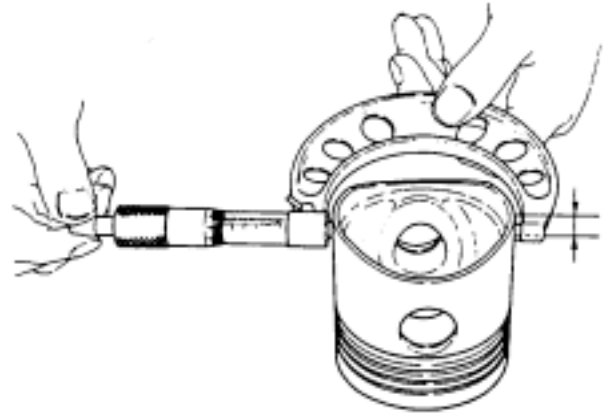
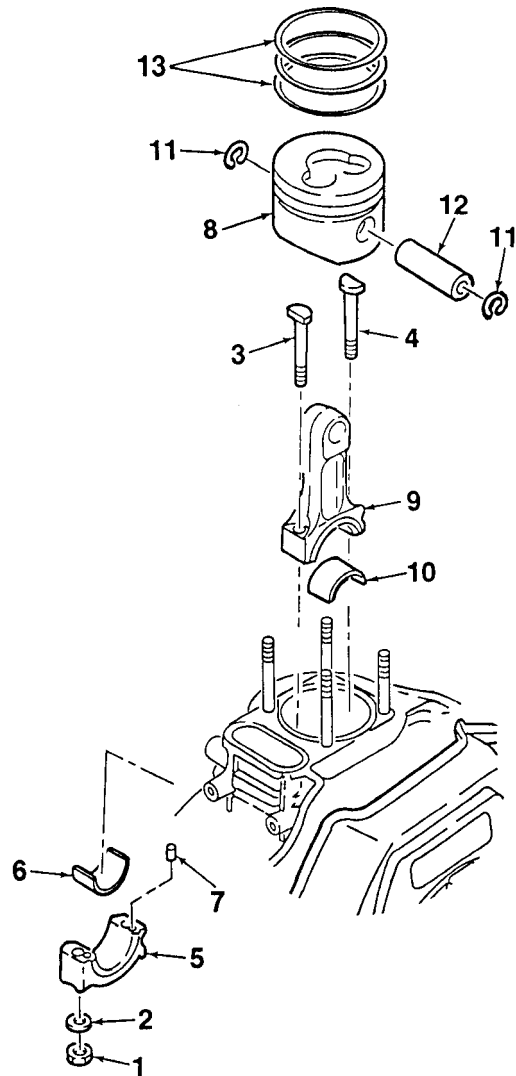

Figure 5-13. Piston Inspection
Figure 5-15. Piston and Connecting Rod Installation
2. Measure the outside diameter (OD) of piston, approximately 1/2 inch from the bottom (Figure 5-13). OD must be 3.0591 inches (77.70 mm), minimum. Replace piston if out of limits.
3. Measure the internal diameter (ID) of the piston pin hole in piston. ID must be 0.8295 inch (21.07 mm), maximum. Replace piston if out of limits.
4. Measure the OD of piston pin (12, Figure 5-15) along the length of the pin. OD must be 0.8232 inch (20.91 mm), minimum. Replace piston pin if out of limits.
2. To install piston pin (12, Figure 5-15) into piston (8) and connecting rod (9), heat components to 158 to 176° F (70 to 80° C). Match marks on piston and connecting rod and install connecting rod into piston. Install piston pin (12) and allow components to cool.